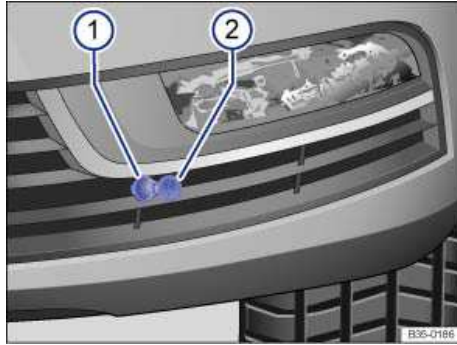

Fig. 130 In the front bumper: Connection socket 2 for the engine preheating system.
- Open the cover ⇒ fig. 130 \(1\).